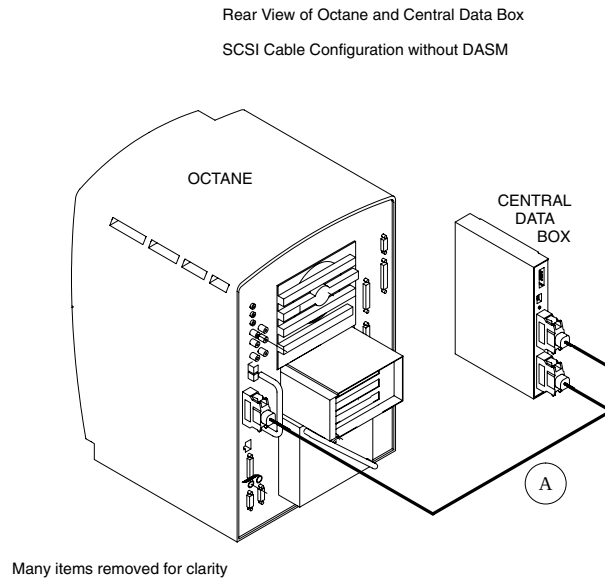

Figure 10-3 SCSI Cable Configuration without DASM
- 5.) Disconnect the Central Data Box end of SCSI cable A (refer to Figure 10-3).